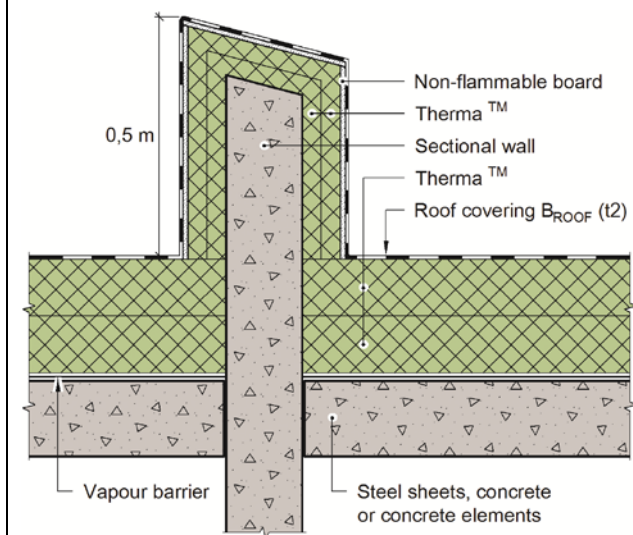

Fig. 10
- When fire walls or fire compartment walls project at least 0.5 m above roofs with load-bearing profiled steel sheets or concrete slabs, and the wall is made or covered with non-combustible materials, Kingspan Therma™ can be used without the need for replacement with non-combustible insulation (A2-s1,d0). See Fig. 10.